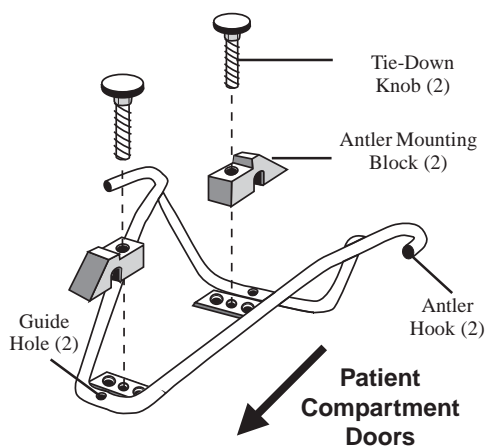

Figure 24 - Mounting the Antler
2. Place the antler on the cot Centerline with the antler hooks open toward the patient compartment doors (Figure 24).
3. Place the antler mounting blocks on the antler. The holes in the mounting blocks should face toward the inside of the antler (Figure 24).